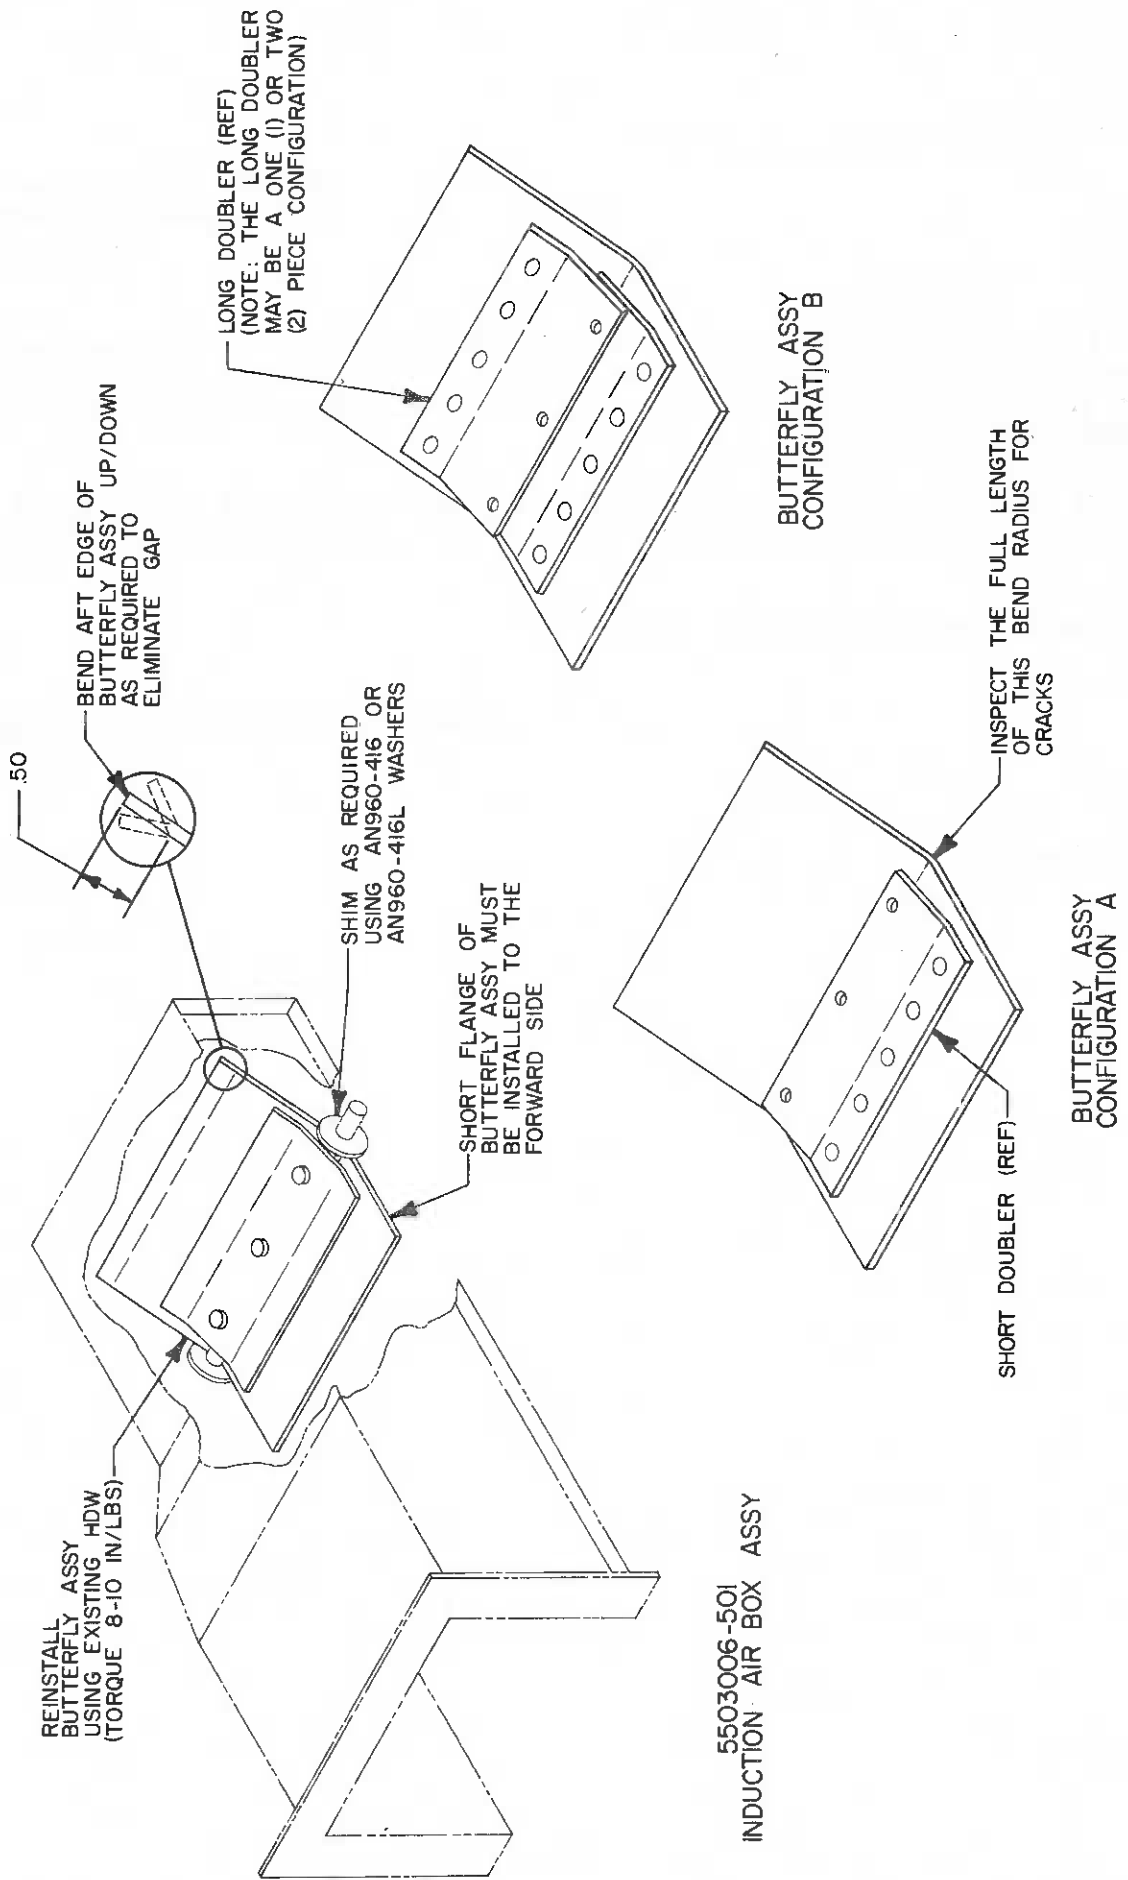

FIGURE 1
- I. Initial Inspection-before further flight, remove the lower cowl and inspect the carburetor heat valve assembly for configuration as shown in FIGURE 1. If configuration "A" exists, remove the valve assembly and inspect for cracks in the bend radius. If cracks are found, remove valve assembly from service and replace with a new valve assembly Part No. 5503006-505. Destroy removed valve assembly. Do not reuse.
- II. Subsequent Inspection-if no cracks are found in configuration "A" valve assembly, valve assembly may be reinstalled and temporarily returned to service for twenty-five (25) hours of operation. At the end of this time period the valve assembly must undergo the initial inspection procedure as described in Part I of instructions. If no cracks are evident at the second inspection of configuration "A" valve assembly, the valve assembly may be reinstalled and returned to service for a final twenty-five (25) hour operational period. Under no circumstances shall a configuration "A" valve assembly remain in service beyond fifty (50) hours of operation.
1. After valve assembly is installed into air box assembly, temporarily install air box assembly onto lower cowl. Remove air filter and check the forward and aft gap between the valve assembly and carburetor heat box/lower cowl contact points. Maximum gap is .120 inches at both ends of valve with carburetor heat in the on and off position. If excessive gap exists, remove air box assembly and crimp edge of valve assembly up or down as required to arrive at the minimum gap (SEE FIGURE 1).